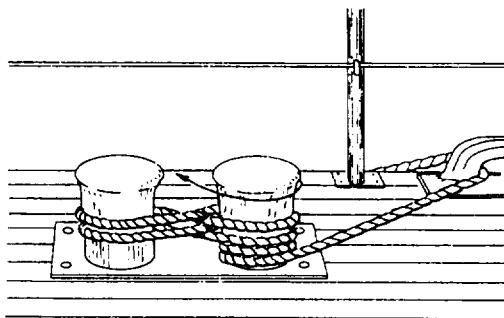

Figure 3-1.—Securing lines to bitts.
1. Because of the lower coefficient of friction of synthetic fiber line, exercise extreme care when a line is being payed out or eased from securing devices (bitts, cleats). For control in easing out, take two round turns and no more than two figure-eight bends. Any more than this will present danger to personnel and difficulty in handling the line. All lines on capstans and gypsy heads shall be payed out using power and never by surging. Figure 3-1 shows the method of securing a mooring line to the bitts.